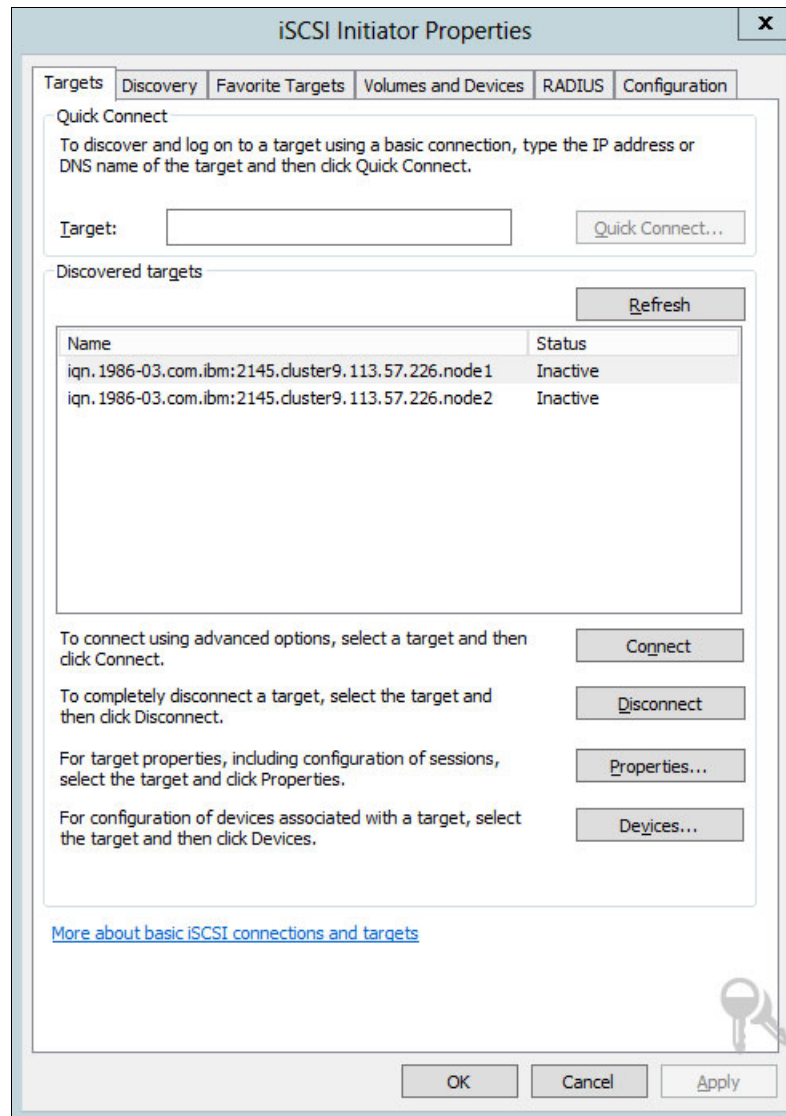

Figure 7-24 Discovered targets
5. After you discover all the target IPs, you see the targets that are listed under the Discover targets in the Targets tab, as shown in Figure 7-24.